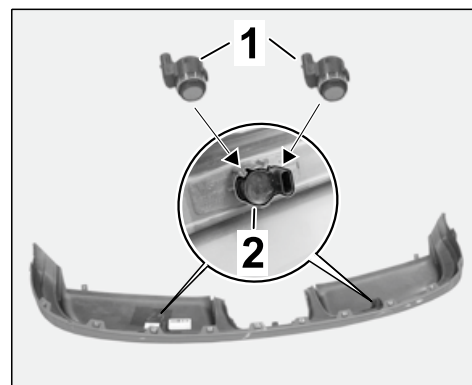

Figure 35
- 6.5 **ONLY** for vehicles with rear ParkAssist: Fit painted ParkAssist sensors $\Rightarrow$ *Figure 35 -1-* into the glued-in holder $\Rightarrow$ *Figure 35 -2-* on the rear skirt.